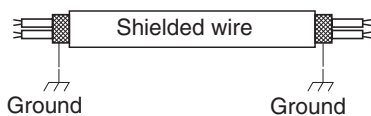

Fig. 4-6
- (5) Use shielded wires for inter-unit control wiring (c) and ground the shield on both sides, otherwise misoperation from noise may occur. (Fig. 4-6)